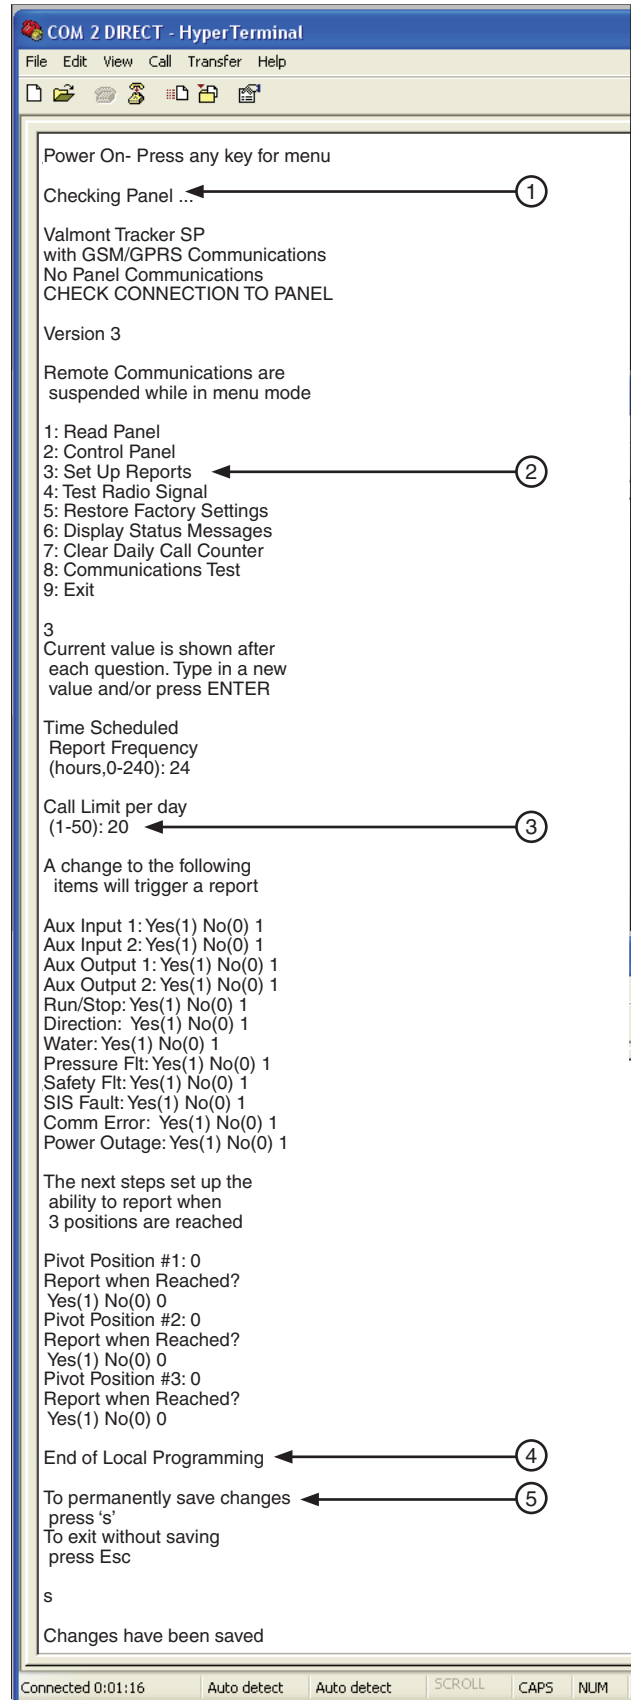

Figure 29-1
1. At the computer, press and release the enter key until "Checking Panel" is displayed. Connection to the control panel is tested, then the Main Menu is displayed. This may take several minutes. See figure 29-1.
2. At the Main Menu, press 3 to display the Setup Reports Menu. See figure 29-1.
3. At Call Limit per day, , enter 1 to limit the calls to 1 status change call per day from the TrackerSP to the TrackNET Website. Then press Enter. See figure 29-1.
4. Press enter repeatedly until End of Local Programming appears on the computer screen. See figure 29-1.
5. To permanently save changes press "s" or to exit without saving press "esc". See figure 29-1.